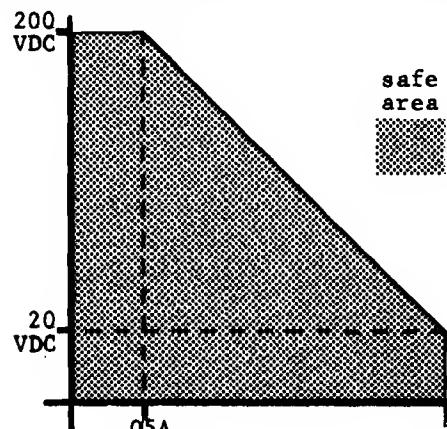

FIGURE 1 -- REED RELAY CONTACT RATINGS
- 6 Figure 1 shows tradeoffs for power handling capacity and contact voltage for the reed relays. The contacts are rated for several million cycles; however, the greater the load on the contacts the shorter their life.